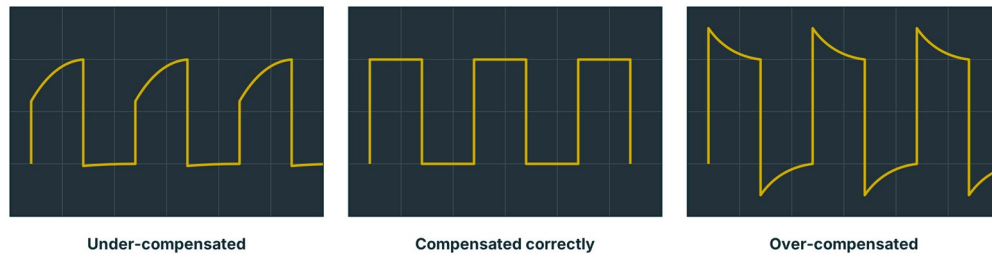

Figure 2 Probe compensation
2. Compare the waveform displayed with Figure 2.